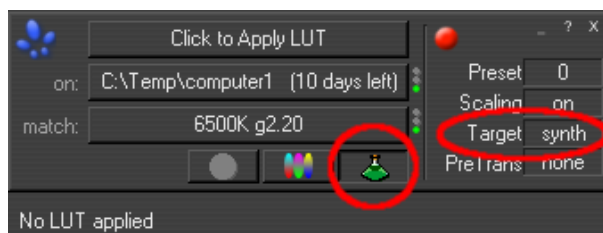

Figure 6.3: Opening Synthetic Profile Page
1. Click on the green “flask” (see Figure 6.3) and then press the target profile button;